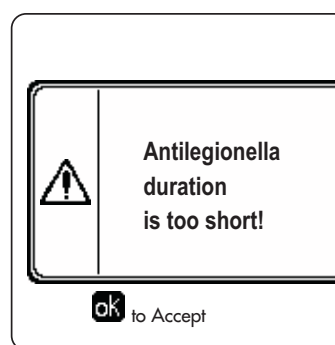

fig. 28- Message Anti-legionella function not completed
- If the **Anti-Legionella Function** is not carried out correctly, the message shown in fig. 28 is displayed. Even in the presence of this message, the boiler will continue to operate correctly.